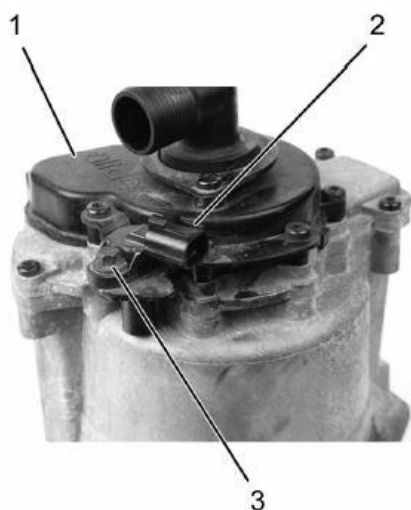

Figure 10: CCOS Housing Sensor
28. Remove CCOS housing sensor bolt (Figure 10, Item 3) and CCOS housing sensor (Figure 10, Item 2) from CCOS housing (Figure 10, Item 1).
1. Install CCOS housing sensor (Figure 10, Item 2) on new CCOS housing (Figure 10, Item 1) with CCOS housing sensor bolt (Figure 10, Item 3). Tighten CCOS housing sensor bolt to 89 lb-in (10 N·m).